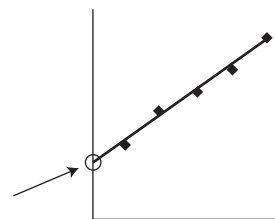

Figure 1.
6. Record your prediction in Part A below (include the units). *Hint:* On your best fit line, this should be the mass that corresponds with a volume of 0 mL. This is called the y -intercept (the point where the line meets the y -axis, see Figure 1). Be as precise and accurate as you can. Your grade is based on how close your prediction is to the actual mass (See Scoring Table below).